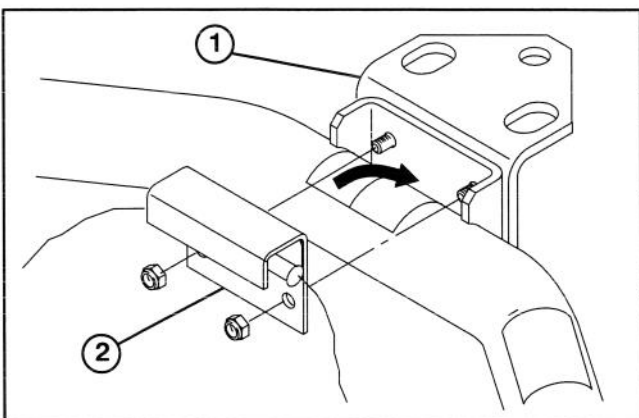

Figure 5
21. Remove locknuts securing hitch plate to rear axle (Fig. 5). Loosely mount rear harness switch bracket to rear axle with locknuts removed.